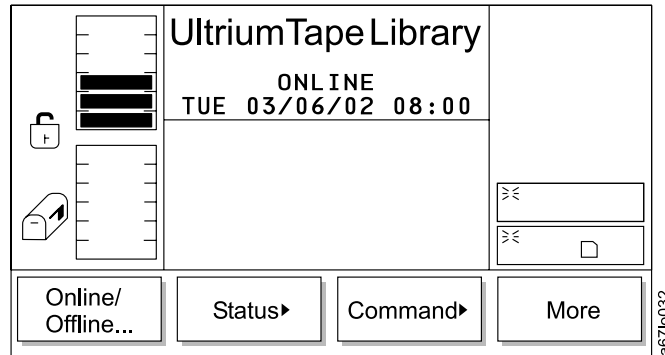
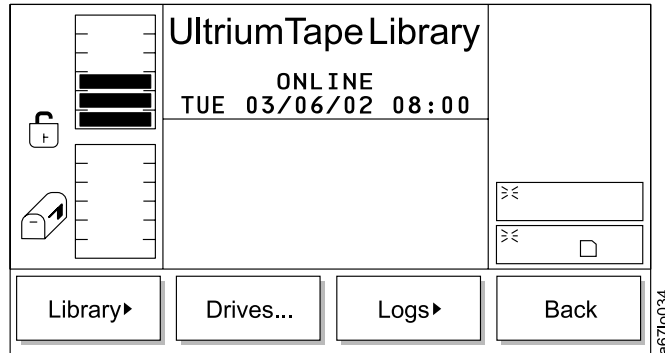

Figure 76. Main Menu (initial screen)
Figure 81. Status Menu
The Main Menu is the first interactive menu that displays after you turn the power on. The Main Menu consists of the initial screen and the alternate screen. You can select all subsequent menus and options from the Main Menu. Eight options are available, with four of the options present at all times. Figure 76 shows the Main Menu's initial screen.
Use the Status Menu to provide static and dynamic operating statistics. Select **Status** from the Main Menu (initial screen) by pressing the button below the **Status** softkey (see Figure 76 on page 89). The Status Menu displays (see Figure 81).
- If **Back** is selected, the Main Menu displays (see Figure 76 on page 89).
- If **Back** is selected, the Status Menu displays (see Figure 81).
- If **OK** is selected, the Status Menu displays (see Figure 81 on page 92).
- If **Cancel** is selected, the Status Menu displays (see Figure 81 on page 92).